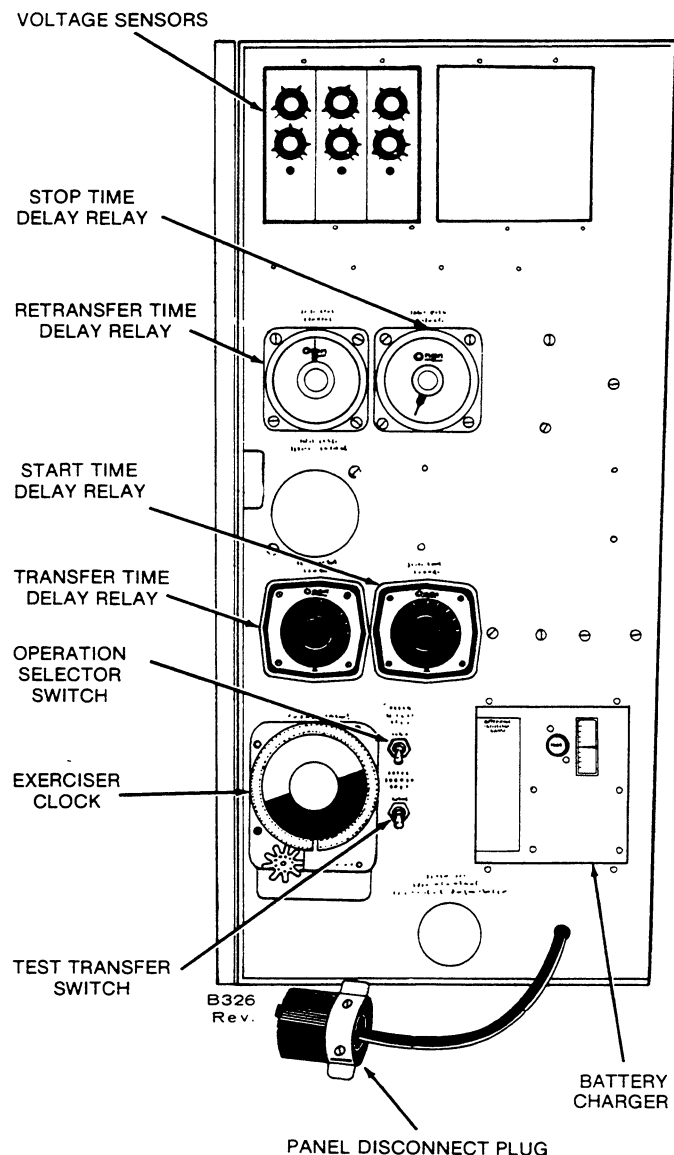

FIGURE 10. RELAY, TWO-WIRE, CONTROL ACCESSORY PANEL
Relay control accessory groups use adjustable time delay relays to provide the timing functions required by the application. Relay groups may include, as the application requires: solid-state voltage sensing modules, time delay relays, control switches, a solid-state battery charger, and an exerciser clock. The components of the control accessory group are mounted on the hinged control accessory panel as illustrated in Figure 10.
The control accessory panel for a typical two-wire starting, relay control accessory group is illustrated in Figure 10. The control accessory panel can be swung open to allow access to the transfer switch. Before opening the control accessory panel: (1) The engine operation selector switch (on the engine control) must be moved to STOP, and (2) The control